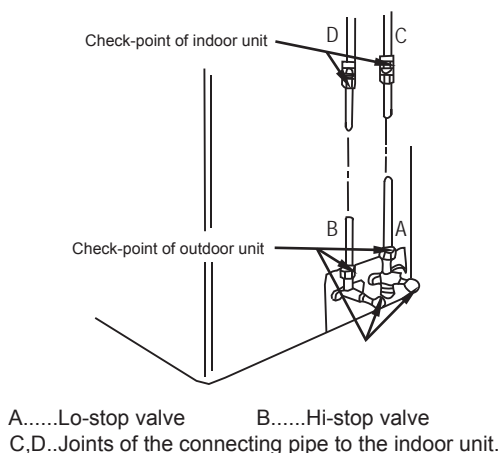

Fig. 7-6
- Check all the joints with the leak detector or soap water. (See Fig. 7-6 as a reference illustration)